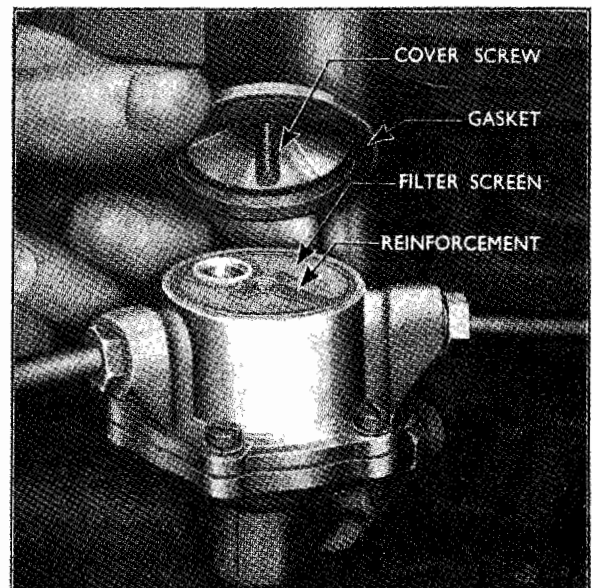

Fig. 3
1. Remove the pump cover screw and fibre washer, lift off the cover, retaining the gasket fitted between the cover and the pump body (Fig. 3).
1. Replace the filter screen on the fuel pump body with the metal reinforcement facing upwards, see Fig. 3.